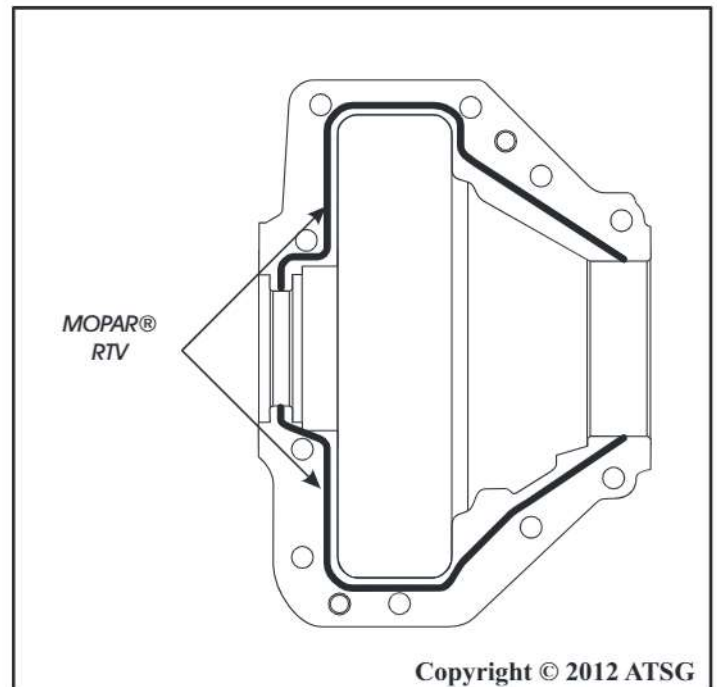

Figure 100
28. Install bead of Mopar® RTV, or equivalent, on the differential cover, as shown in Figure 100.